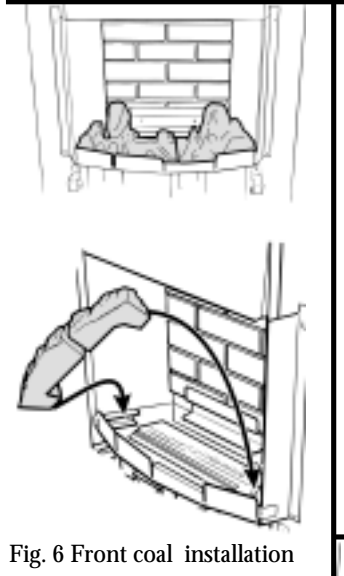

Fig. 6 Front coal installation
2. Place the two halves of the front base coal in the burner compartment so that they rest on the ledges at the sides and front. Pull the coals forward so that they are immediately behind the front rim of the burner compartment (See fig. 6).